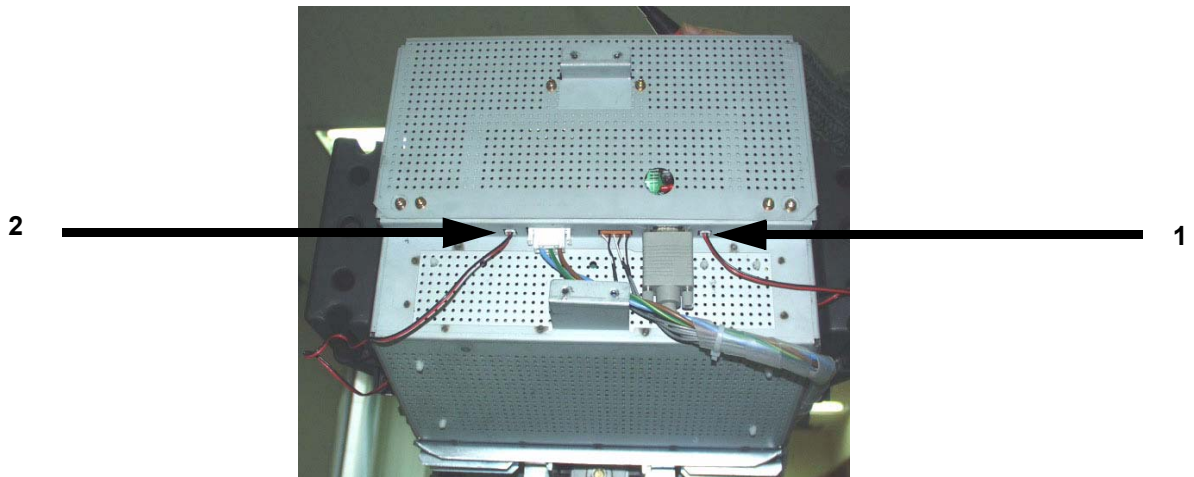

Figure 8-43 Disconnect two connectors
- 1.) Disconnect two connectors (1-2) from the rear side of the Monitor. Refer to Figure 8-43 on page 8-9 .